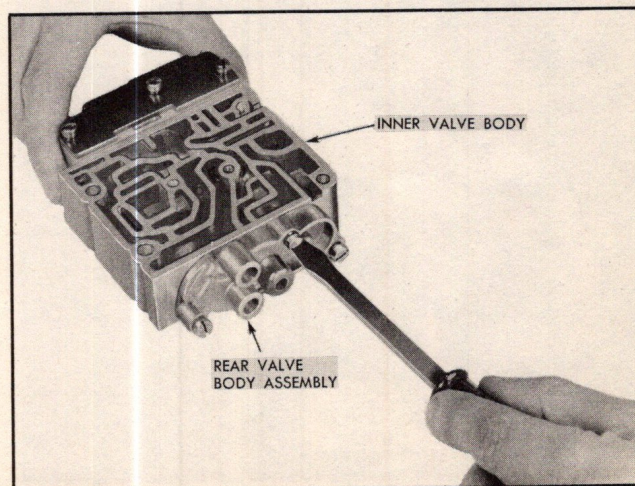

Fig. 13 Removing Rear Valve Body Assembly
6. Remove three (3) screws holding rear valve body assembly to inner valve body and remove rear valve body and spacer plate (Fig. 13).